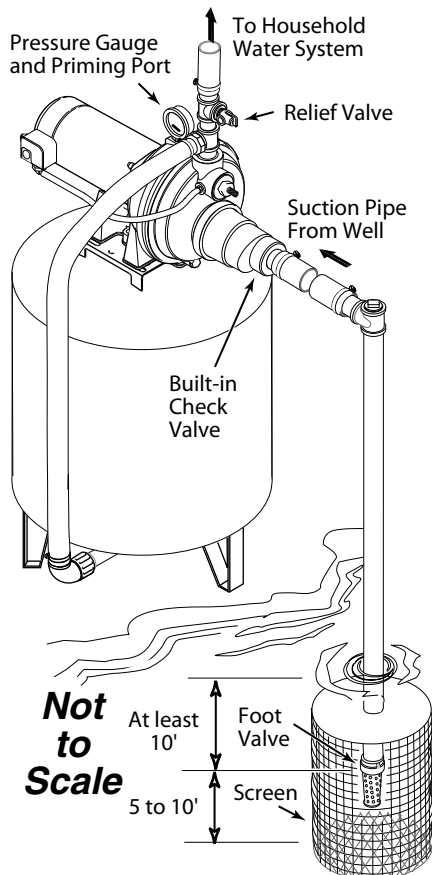

Figure 7 – Surface Water Installation
3. Assemble a foot valve and suction pipe (See Figure 7). Make sure that the foot valve works freely. Use PTFE pipe thread sealant tape on threaded pipe joints. Protect the foot valve assembly from fish, trash, etc. by installing a screen around it (See Figure 7).
5. Install a priming tee, priming plug, and suction pipe to the pump (See Figure 7). Support the pipe so that there are no dips or sags in the pipe, so it doesn't strain the pump body, and so that it slopes slightly upward from the well to the pump (high spots can cause air pockets which can air lock the pump). Seal the suction pipe joints with PTFE pipe thread sealant tape. Joints must be air and water-tight. If the suction pipe can suck air, the pump cannot pull water from the well.